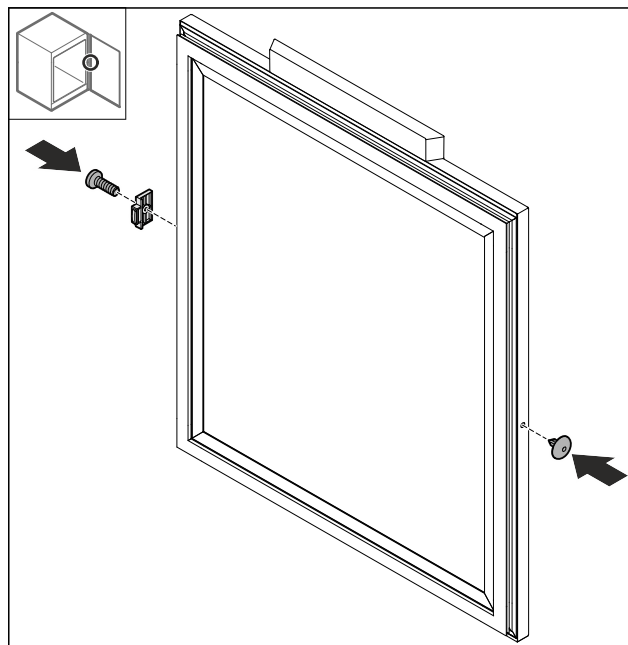

Fig. 46
- Mount the door stopper Fig. 46 (1) turned by 180° on the opposite side.
- Insert the cover Fig. 46 (2) on the opposite side.